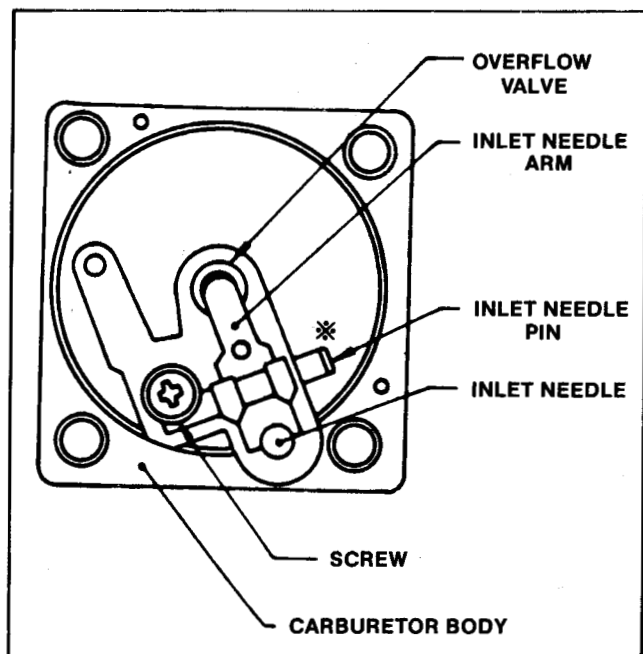

Figure 28
7. Replace the inlet needle pieces by installing the inlet needle, the inlet needle spring, the inlet needle arm and secure with the screw. See Fig. 28.